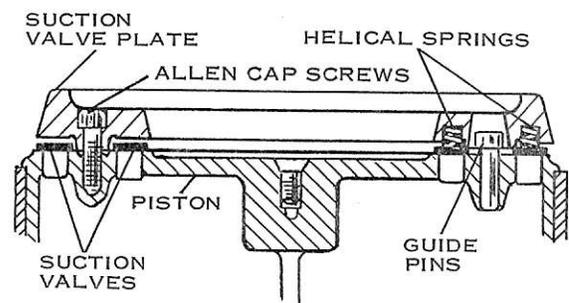

FIG. 38—Suction Valve Cage and Valves
The discharge valves are of the ring plate type, made of tempered steel and held in position by a cast iron discharge valve cage. The discharge valve of each cylinder is identical to the large suction valve (See Fig. 38). Each discharge valve is held in position in the discharge valve cage by twelve conical springs and the inner valve seat. The valve has two ears on the inside diameter that rest against two guide pins located in the bottom of the valve cage to prevent the valve from rotating. The valve seals against the machined surface of the discharge valve plate and the inner valve seat.
GENERAL - The suction valves are of the ring plate type, made of tempered steel. The valves are assembled on top of each piston as shown in Fig. 38. Each piston assembly contains two suction valves, ten suction valve springs, one cast iron valve cage, two guide pins and six Allen cap screws and lock washers. The entire assembly is bolted to the top of the cast iron, double-trunk, slipper type, babbitt faced piston. The two suction valves are prevented from rotating by two guide pins in the top of the piston. The large valve has two ears on the inside diameter which rest against the guide pins. On the small valve, two ears are located on the outside diameter and rest against the opposite side of the same pins. Both suction valves are held in position by the suction valve cage.
8. Turn the valve cage over and place it on top of the piston, making sure that the ears of the large ring valve rest against one side of the guide pins and the ears of the small ring valve rest against the opposite side as shown in Fig. 38.